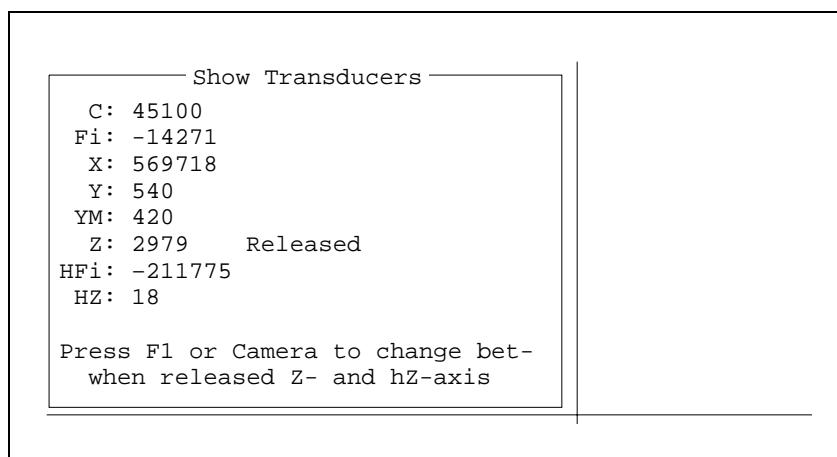

Figure 4-1. Transducer Program window
3. When prompted OK to initiate hardware? press the <Enter> key. The Transducer Program window is shown, see Figure 4-1.